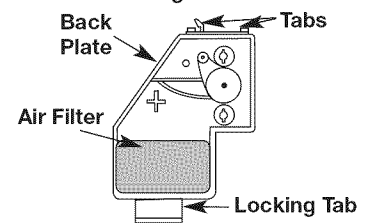

Fig. 27
2. Remove the air filter (Fig. 27).
6. Replace the filter (Fig. 27).